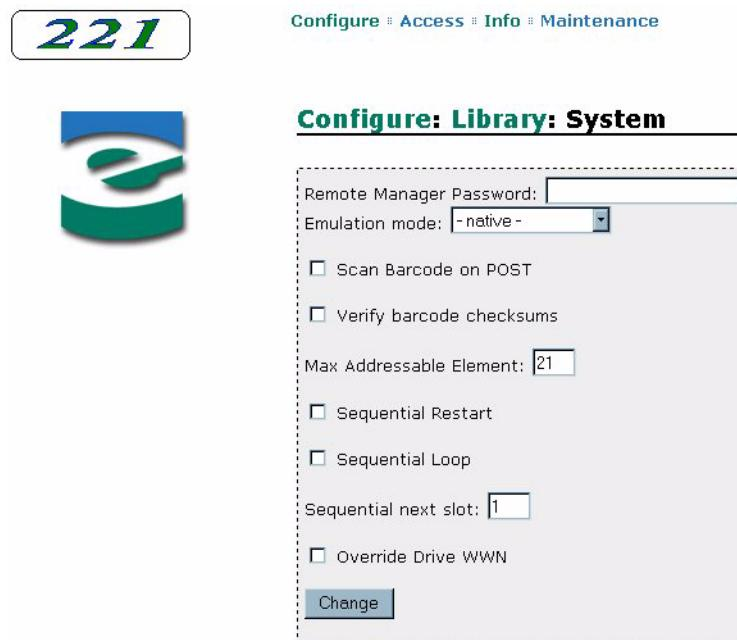

Figure 6-11 Remote management utility – Library System Configuration page
3. Click on Configure library system. A page similar to Figure 6-11 appears.